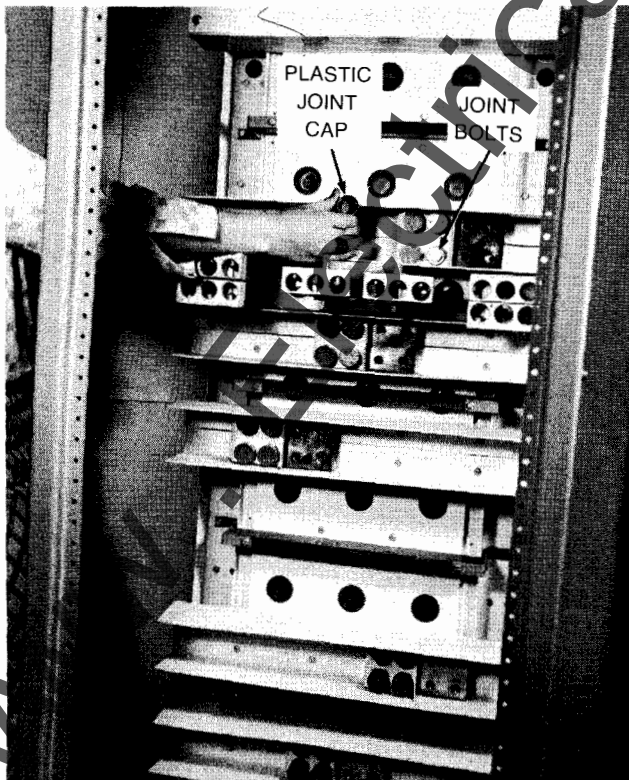

FIGURE 51.
2. (Fig. 51) Joint bolts may be maintained without disturbing the isolating barriers. Simply unscrew the red plastic caps over the joint bolts which will expose the bolts for maintenance or removal. These joint bolts terminate in inserts so that there are no loose nuts or washers to contend with.